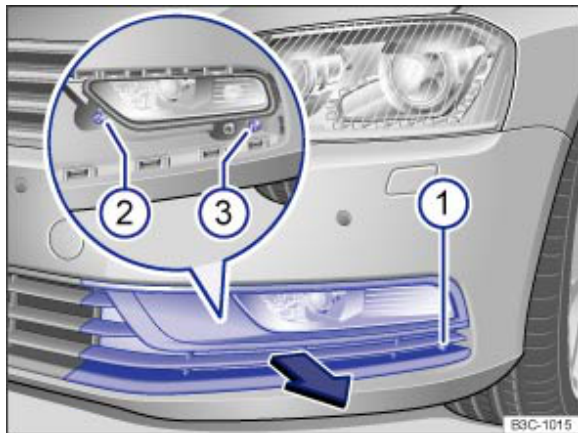

Fig. 244 Front bumper, left-hand side: fog lights, daytime headlights and cornering lights
2. Use the screwdriver from the tool kit (→ Fig. 223) to unscrew the securing bolt → Fig. 244 ① .
3. Pull the cover forwards in the direction of the arrow → Fig. 244 .
4. Remove the securing bolts → Fig. 244 ② ③ with the screwdriver.
13. Screw in securing bolts → Fig. 244 ② ③.
14. Fit the cover on the bumper and screw in securing bolt → Fig. 244 ①.